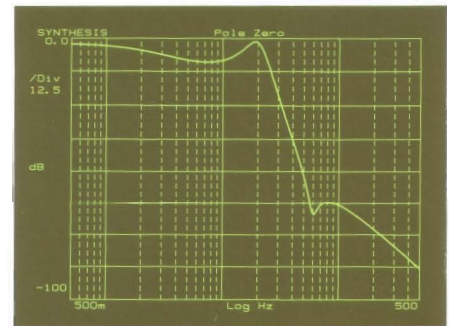

Figure 10-2
**7. Create Response** Select the **CREATE TRACE** softkey to activate the frequency response synthesis; the message "SYNTHESIS IN PROGRESS" is displayed. The results for this example are shown in Figure 10-2.
A quick inspection with the Y-marker shows that the passband flatness is not within the specifications due to the peak at 20 Hz (as shown in Figure 10-2). One possible solution is to move one of the complex pole pairs farther from the  $j\omega$  axis: